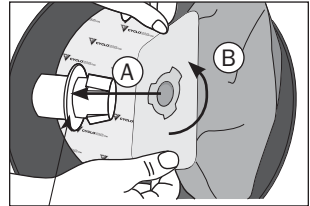

figure 18
4. Ensure adequate sealing by inserting bag as far as retention ring (**figure 18 - A**).
Rotate bag 20° (**figure 18 - B**) to ensure tabs on bag adaptor are no longer aligned with the slots in the bag collar.